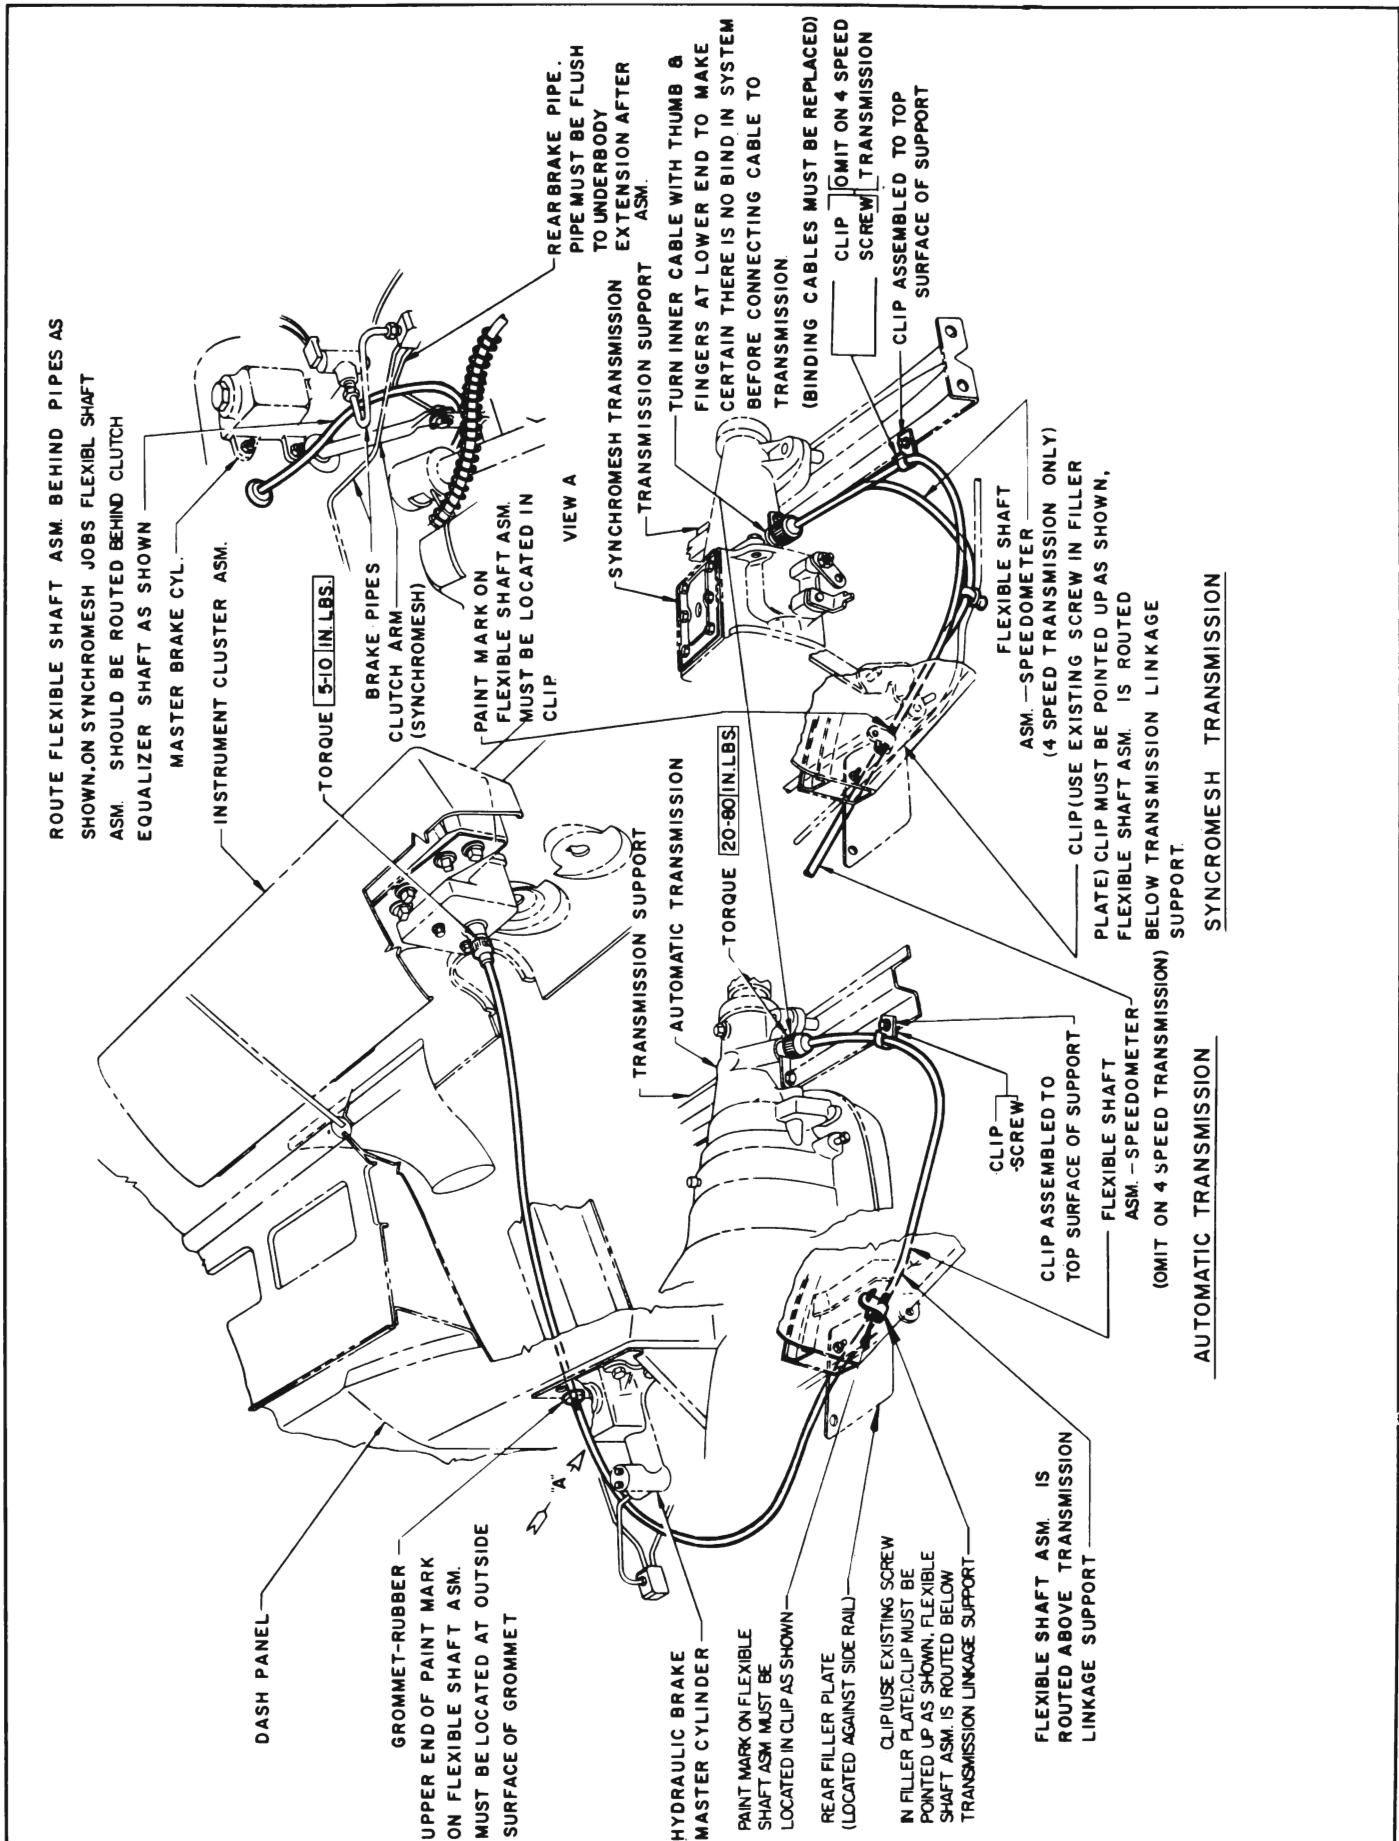

Figure 10-84—Speedometer Cable Installation
5. If noise disappeared with transmission stationary, check further for cause of noise by checking routing of speedometer cable as shown in Figure 10-84.